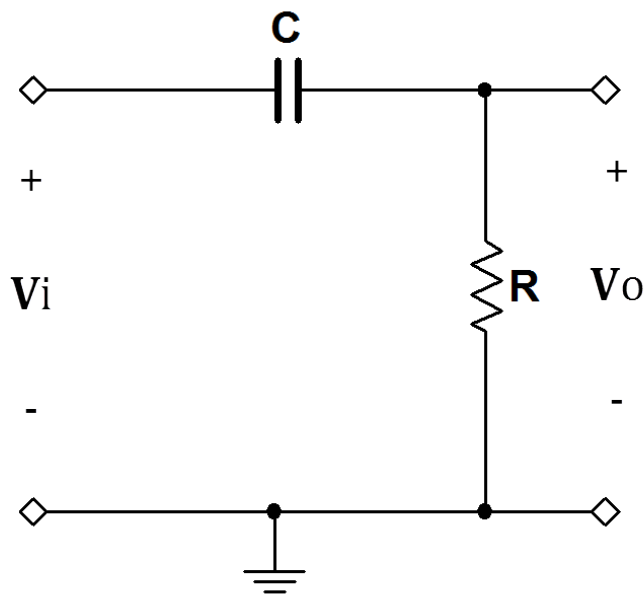

Figure 9.3: Circuit for Problem 9.3
The filter circuit shown in Figure 9.3 uses the component values $R = 1.0 \text{ k}\Omega$ and $C = 1.0 \mu\text{F}$.
1. Enter the circuit of Figure 9.3. Drive the filter input with an AC_VOLTAGE source with “AC Analysis Magnitude” set to 1 V.
1. Build the circuit of Figure 9.3 on the preceding page. Drive the filter input with AO0. Monitor the filter input with AI0 and the filter output with AI1.